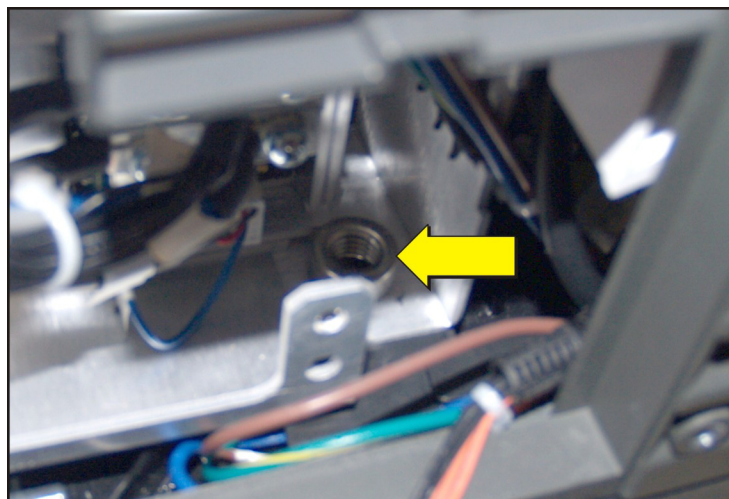

Figure 5-38 Clear PEM Nut
5. Lift and slide the LVPS out of the projector in such a way that the PEM nut is cleared (**Figure 5-38**).